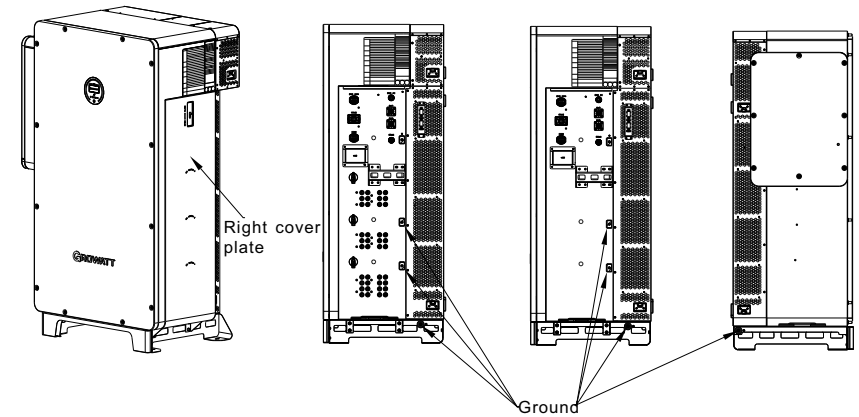

Fig 6.1 Ground points
4. The position of the ground points of the WIT 50-100K Storage/Hybrid Inverter is shown in Fig 6.1. You can find the ground points after removing the right cover plate.
1. Open the right cover plate of the WIT inverter, the position of which is shown in Fig 6.1;